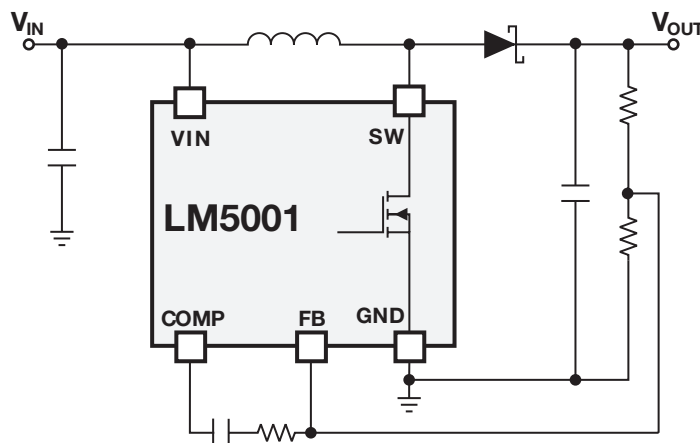

Figure 1. Boost regulator with an integrated FET.
A boost regulator, widely used in low voltage battery-powered systems, provides a higher output voltage than the input. **Figure 1** shows the simplified schematic of a boost regulator with the LM5001, high-voltage switch-mode regulator from Texas Instruments (TI). This regulator features an integrated FET which reduces the total solution size.